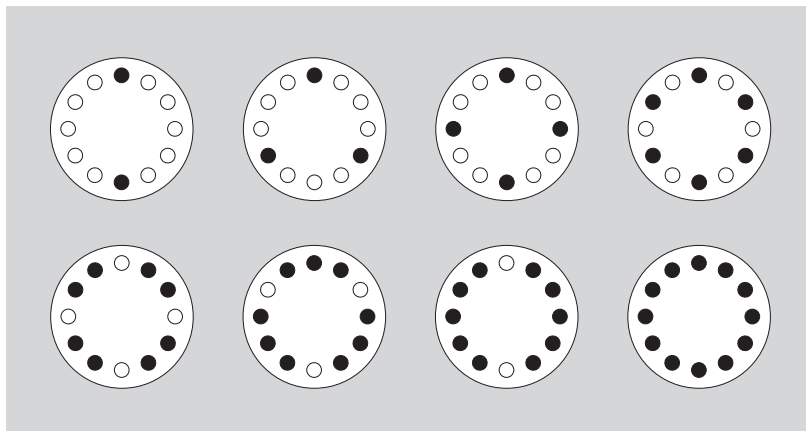

Figure 3. Typical Examples of Arranging Tubes in the Rotor
2. Load the filled containers symmetrically into the rotor. (Refer to TUBES on page 15 for information about containers.) If fewer than twelve tubes are being run, they must be arranged symmetrically in the rotor (see Figure 3). Opposing tubes must be filled to the same level with liquid of the same density.